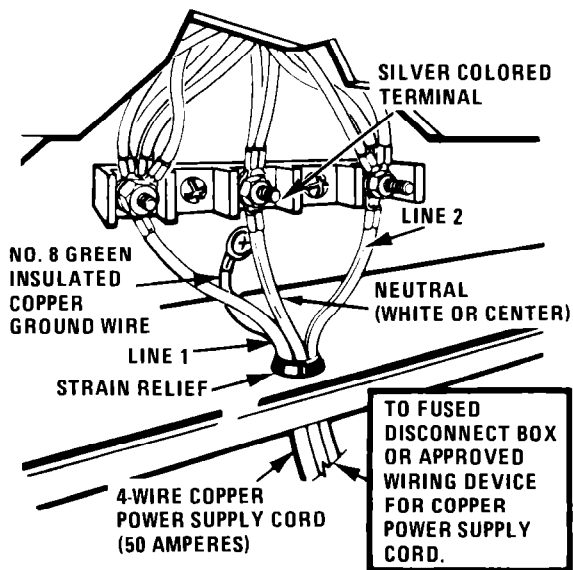

FIGURE 7
c. Connect the ground wire (green) of the copper power supply cord to the frame of the appliance with the ground screw, using the hole in the frame where the ground strap was removed. See Figure 7.